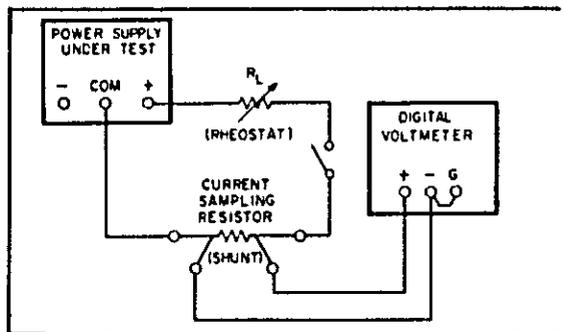

Figure 5-3. Output Current, Test Setup
i. Connect the test setup shown in Figure 5-3 to the  $+6V$  output. Make the total resistance of  $R_L$  and the current sampling resistor equal to 6 ohms to permit operating the output at full load.  $R_L$  should have a power rating of at least 6 watts.
m. Check the rated output and ammeter accuracy of the  $+18V$  and  $-18V$  supplies similarly by connecting the test setup of Figure 5-3 to each output in turn. For each 18V supply: make the total resistance of  $R_L$  and the current sampling resistor 90 ohms, set the  $\pm 18$  VOLTAGE control for a current indication on the DVM of 0.2A and check that
o. Connect the test setup shown in Figure 5-3 to the  $+18V$  output. Substitute a short for  $R_L$  and leave the load circuit switch open.
- Connect the test circuit of Figure 5-3 to the output of the supply to be adjusted. Substitute a short for  $R_L$
- Connect the test circuit of Figure 5-3 to the output of the +6V supply. Substitute a short for  $R_L$  and leave load circuit switch open.
- Connect the test setup shown in Figure 5-3 to the +6V output. Make the total resistance of  $R_L$  and the current sampling resistor 6 ohms to permit operating the supply at its full rated output.  $R_L$  should have a power rating of at least 6 watts.